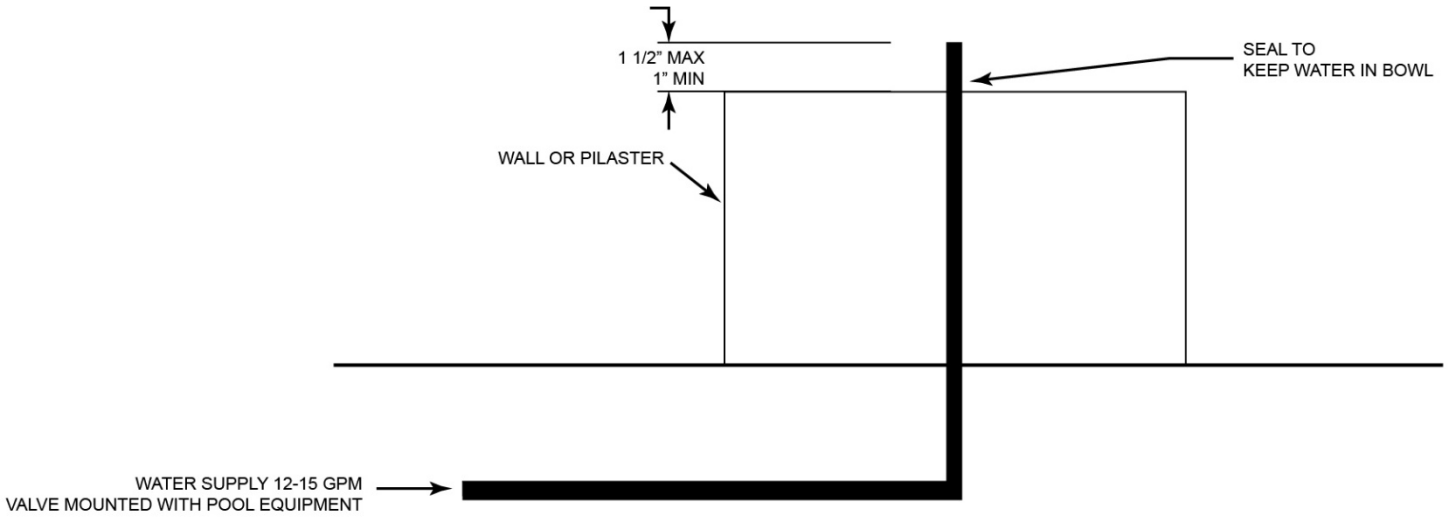

FIGURE 1: PIPING SETUP FOR BOWL
1. Install a 1" PVC water line in the middle of column. Piping must be reduced to ½ NPT or larger at each bowl, as shown in Figures 1 & 2. Note: The water connection must be located at the center of each bowl. The connections must be installed as shown in Figures 1 & 2.